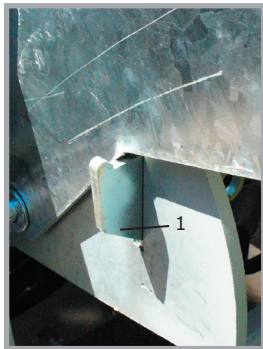

Fig. 3
Connect your log splitter to the tractor using a PTO shaft (see paragraph 5.3) or plug the motor to your house network. Before starting to work with your log splitter, release the locking bolt (1) used to secure the log lift in its transport asset. (see Figure 3).